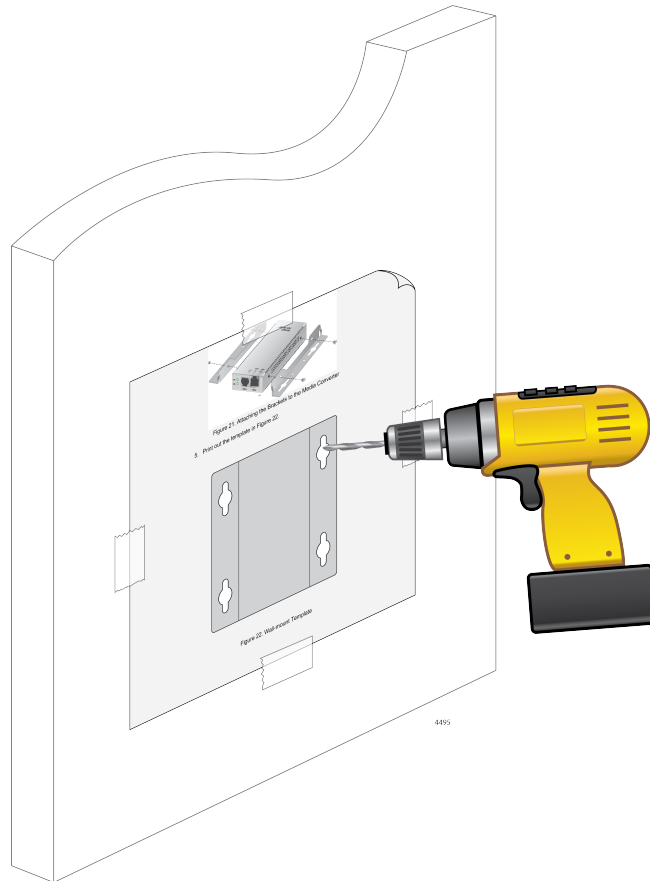

Figure 38. Placing the Template on the Wall
7. Pre-drill four 3/16" (5mm) holes at the locations on the templates as shown in Figure 38.